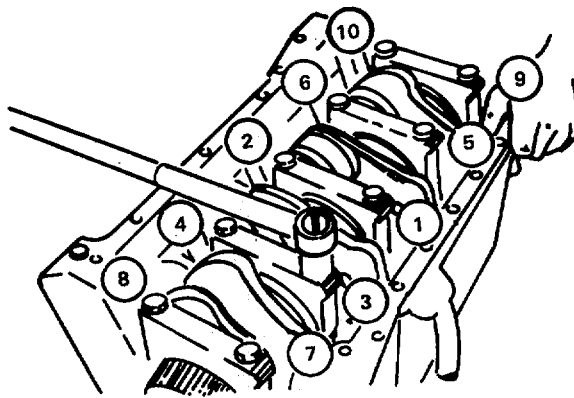

FIGURE 4-75. Capscrew Tightening Sequence
- h. Tighten the capscrews evenly following the illustrated sequence. (FIGURE 4-75)